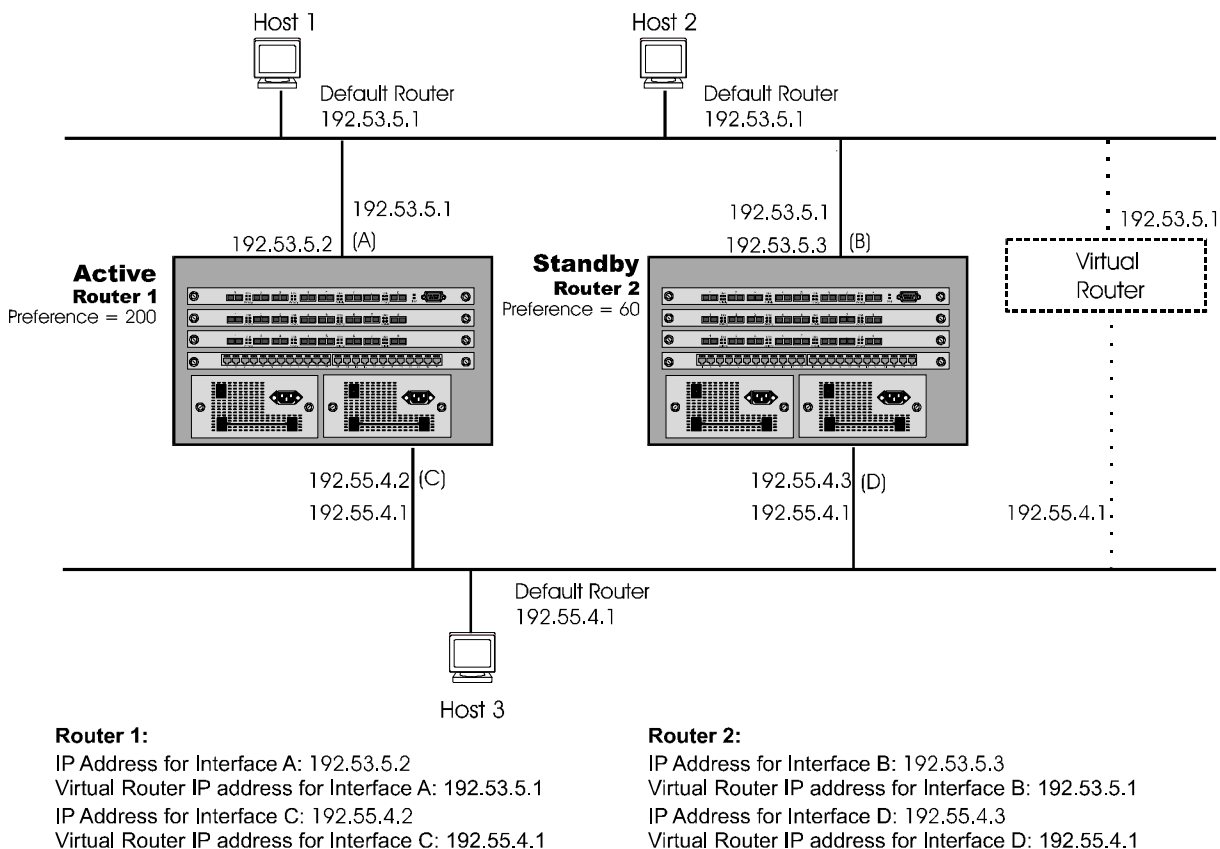

Figure 11.5 SRP operating in an HP 9304M network
In the examples in this section, a user is interested in employing SRP within the network to provide a redundant path between Host 1 and Host 3, should their primary path go down. (**Figure 11.5**).
EXAMPLE: To define and assign the virtual router IP addresses for **Router 1**, shown in **Figure 11.5**, the user would need to define two separate virtual IP addresses for interfaces A and C and link those addresses to the IP addresses of the physical interfaces for A and C.
EXAMPLE 1: To define and assign the virtual router IP addresses for **Router 1**, shown in **Figure 11.5**, the user would need to define two separate virtual IP addresses for interfaces A and C as well as linking those address to the IP addresses of the physical interfaces for A and C.
3. Select the **IP address** to be configured from the pull down menu. Assuming that the user is initially assigning SRP to interface A (Router 1) as shown in **Figure 11.5**, the user selects IP address 192.53.5.2.
4. Assign a **virtual IP address** for the virtual router. A virtual router IP address needs to be configured on at least one router in the SRP group. For interface A, the user assigns 192.53.5.1, as shown in the network configuration of **Figure 11.5**.
5. Enter the **other router IP address**. This is the physical IP address of the partner router's interface in the active-standby router relationship. Notice that in the case of the example (**Figure 11.5**), interface B on router 2 is designated as the standby router interface so IP address 192.53.5.3 is entered.